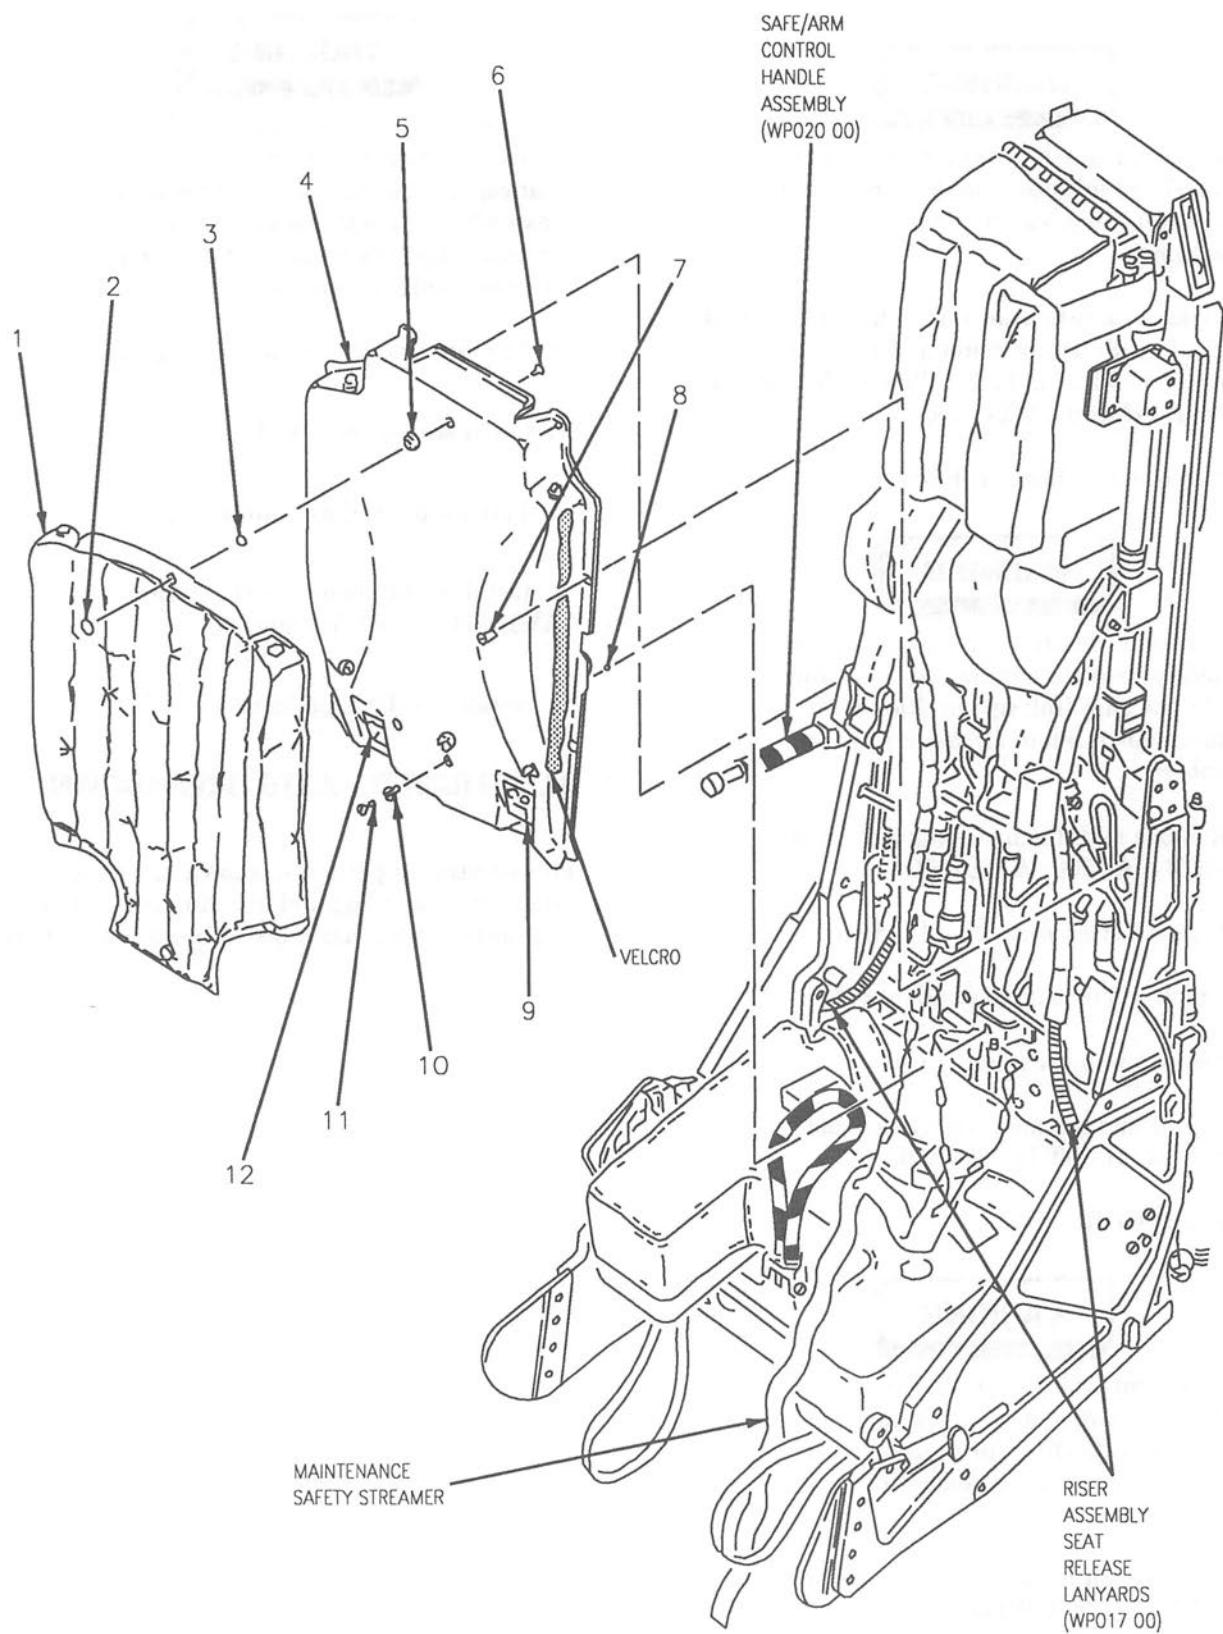

Figure 1. Seat Back Cushion and Seat Wedge Assembly (Sheet 1)
- b. Position wedge assembly (4, figure 1).
- c. Latch stud assembly (11).
- d. Latch four stud assemblies (7).